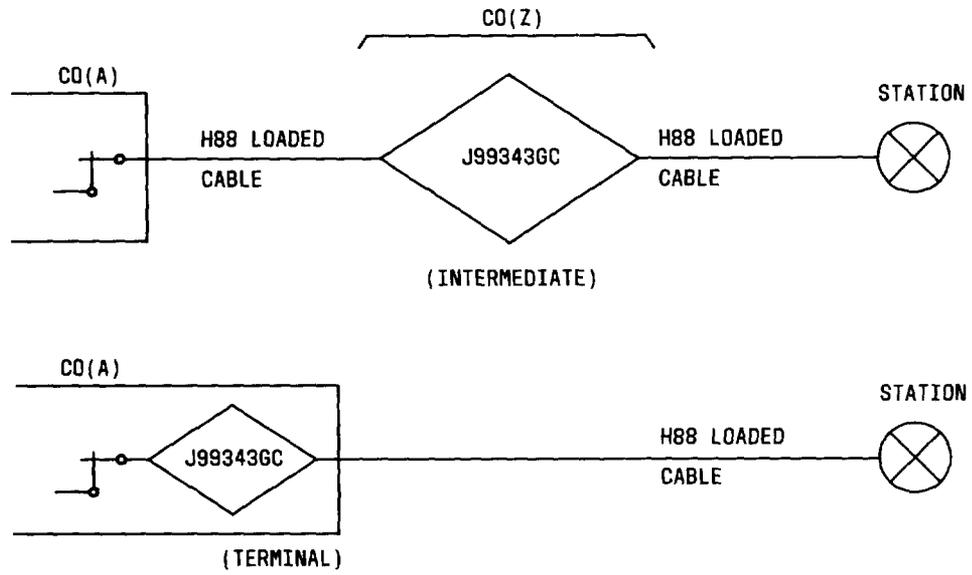

Fig. 6—Foreign Exchange Line Using J99343GC Combined Function Unit
4.01 The J99343GC unit may be used in intermediate applications to provide gain on any 2-wire circuit between loaded facilities. This unit also provides a switch-selectable option, labeled T, which allows it to operate in 900-ohm terminal applications on the loaded facility interface. In this arrangement, The unit operates as a terminal (L) repeater like the J99343PG, List 2. Figure 6 shows a typical application